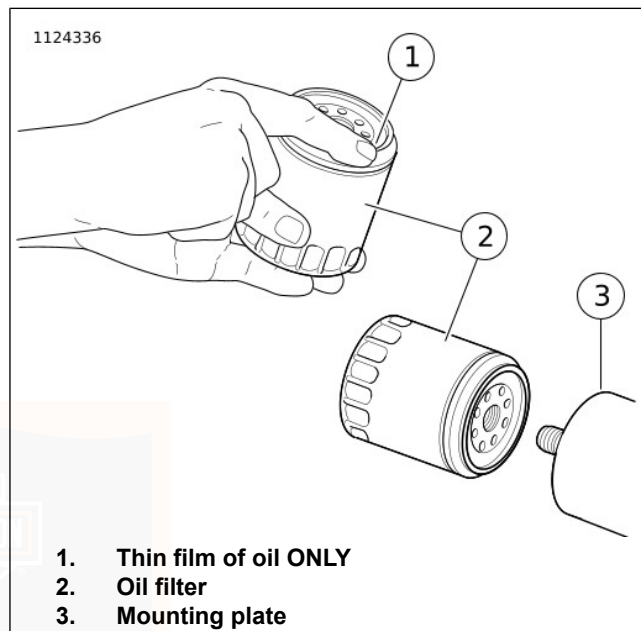

Figure 29. Applying Thin Oil Film
5. See Figure 29. Apply a thin film of oil to the gasket contact surface on the mounting plate and the gasket of the **new** oil filter (Part No. 63793-01K).